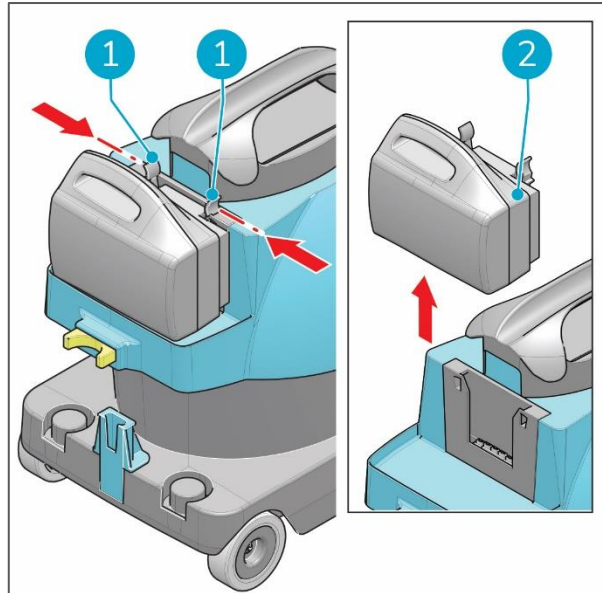

Figure 21
1. Press the plastic clips of the battery (Figure 21, pos 1) slightly towards each other.
2. Pull out the battery (Figure 21, pos 2).